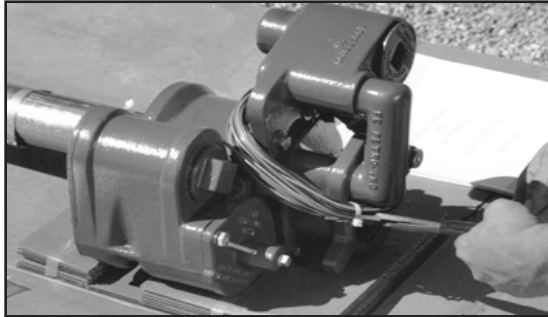

Figure 4: Cut Wires
14. Cut wire tie(s) securing the motor wire at the top of the pump; lay the wires out above the pump head so that wires can feed through conduit freely when setting length (Figure 4).